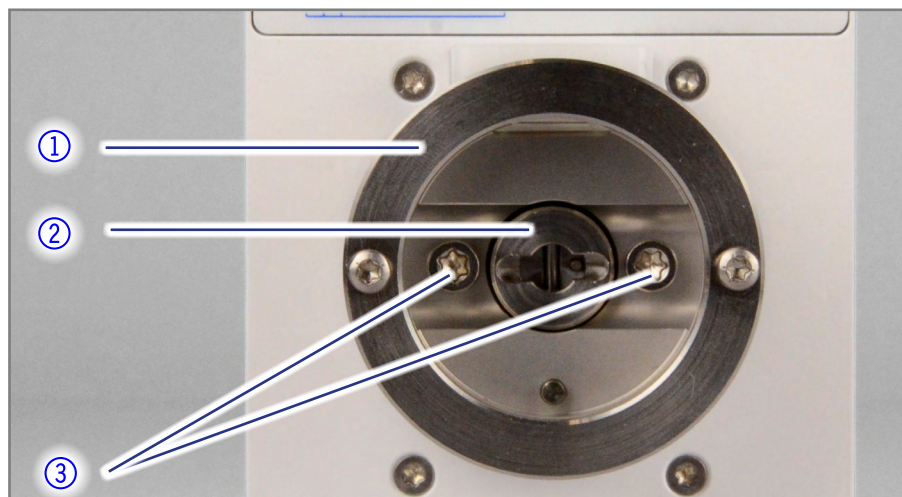

Fig.2 Adapter for standard KNAUER valves mounted on AZURA® VU 4.1
1. Loosen the two screws ③ (TX20) next to the coupling ② and remove the valve head adapter ① (Fig. 2)